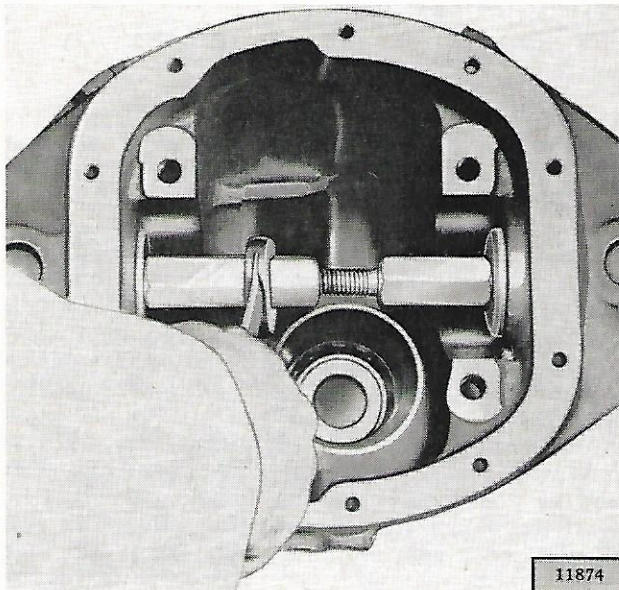

FIG. 11-18—INSTALLING INNER OIL SEALS
**Note:** When overhauling the Model 60 front full-floating axle differential, check the axle inner oil seals. Should new seals be required, install them, using DD-1243 Installer (Fig. 11-18).